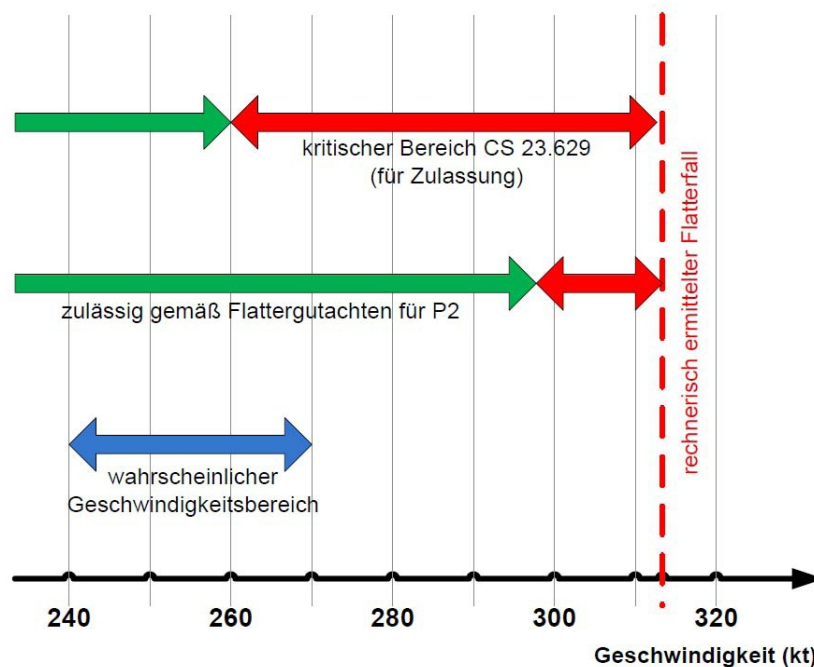

Figure 3: Speed Range [2]
- Despite of the engineering analysis and the somewhat comforting remarks regarding the speed range available, this analysis did not prevent the accident. The pilot thought that he was safe at the fly-by speed when in fact he was not (see Figure 3, second row of arrows from the top).